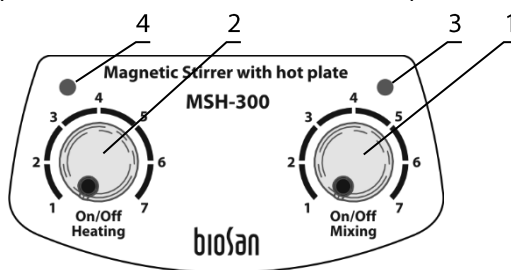

Fig. 2. Control panel
- 4.3. Plate temperature control. Using the **Heating** knob (fig. 2/2), switch the heating **on** and set the required temperature (linearly, in the 30 to 330°C range). Heating indicator starts flashing (4 times per second) until the unit reaches the set temperature.
- 4.4. Using the **Mixing** knob (fig. 2/1), switch the mixing mode **on** and set the required speed.